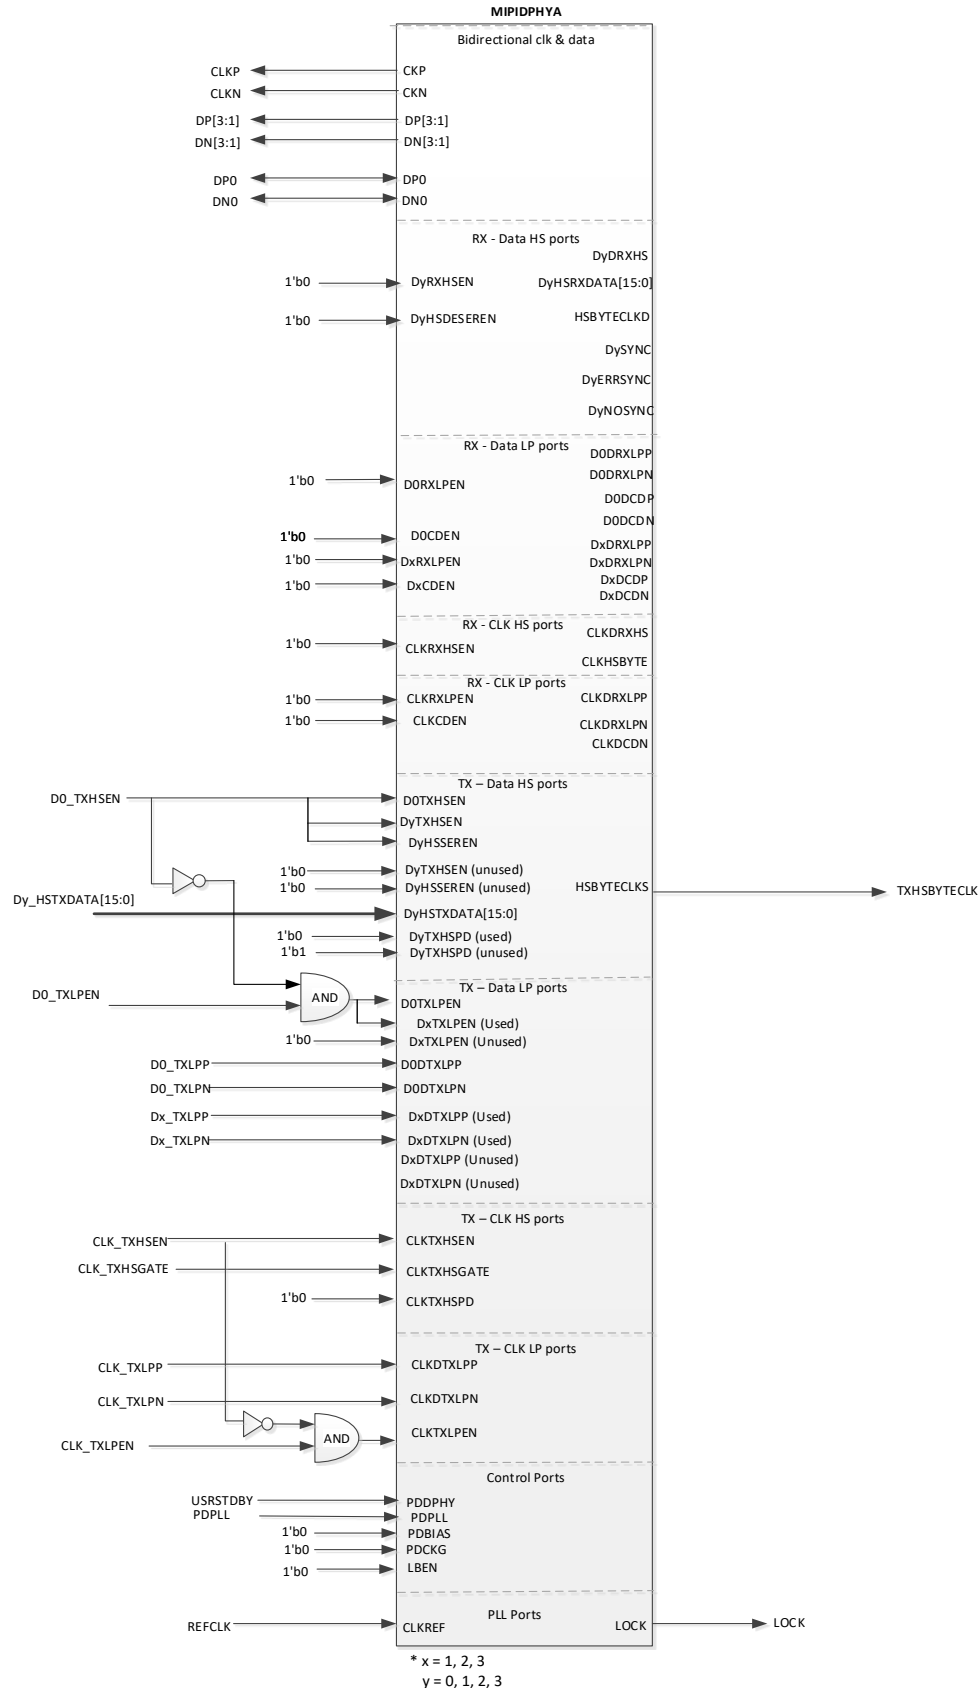

Figure 5.29. MIPI CSI2 Transmit Interface with Hard D-PHY Module
- Figure 5.29 shows the signals connected to the fabric and the automatic settings when the hardened D-PHY is configured for CSI-2 transmit mode. The Clarity Catalog user interface settings automatically powers down unused lanes of the hardened D-PHY.
- Only D0 and CLK bits are used in LP mode. The key difference between CSI-2 and DSI transmit is that the D0 signal is always an output in HS and LP modes, rather than bi-directional. D1, D2, and D3 pins (when those lanes are used) should be toggled between LP/HS mode based on D0 state as shown in Figure 5.29.